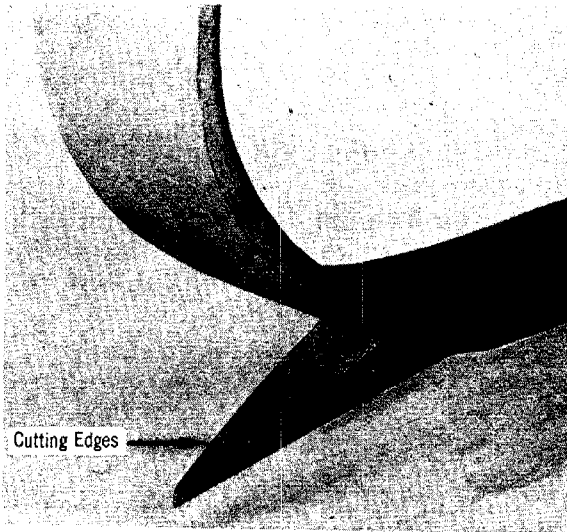

Fig. 17 – Gaff Cutting Edges
7.01 During normal use of climbers the edges along the inner surface (cutting edges), Fig. 17, may become dull. The honing stone should be used to maintain sharp edges. Remember that even a dull gaff can cut your finger so hone carefully.